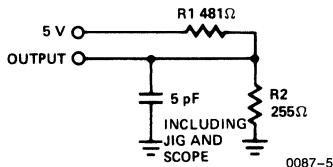

Figure 1b
- tHZOE, tHZCE and tHZWE are specified with CL = 5 pF as in Figure 1b. Transition is measured ± 500 mV from steady state voltage.